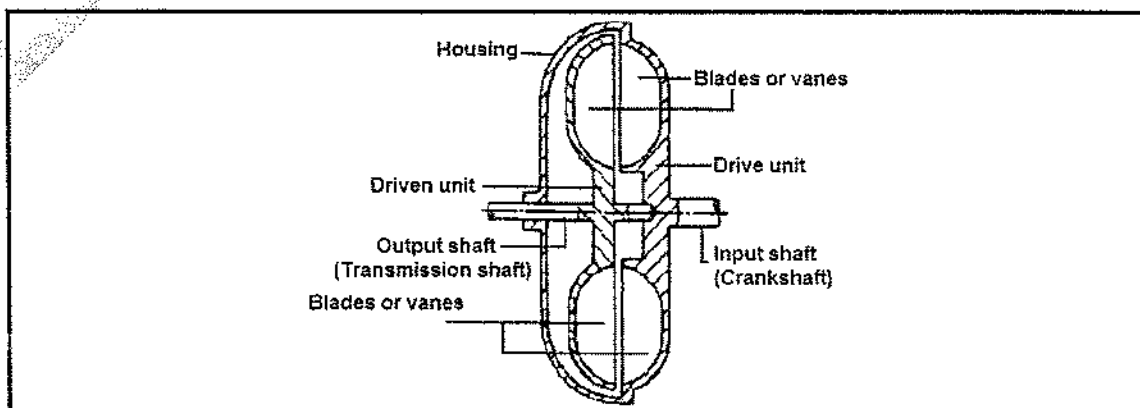

FIGURE 2
2.2 Name the classification of the coupling in FIGURE 2. (1)
- 2.3 Name the type of coupling shown in FIGURE 2. (1)
- 2.4 Name TWO other types of couplings associated with the classification of the coupling shown in FIGURE 2. (2)